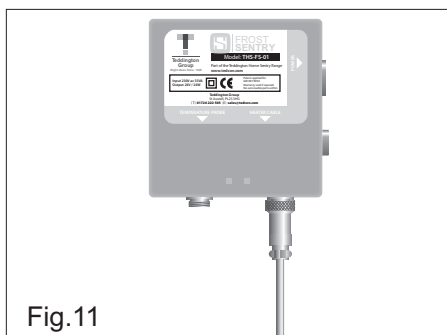

Fig.11
10. Plug the other end into the indicated connection on the Frost-Sentry unit (see Fig.11).